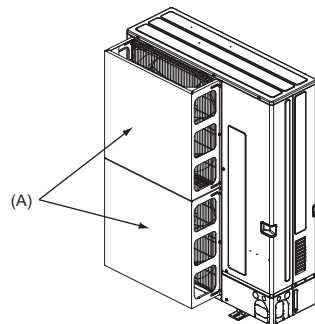
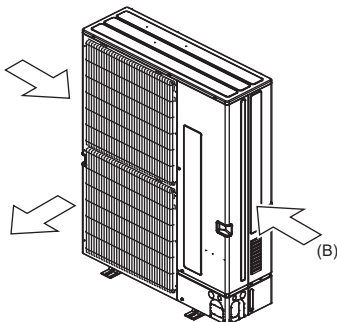

Fig. 2-4
Fig. 2-5
- (2) Install an optional air outlet guide and air guide if the unit is installed in a location where strong winds from a typhoon, etc. may directly enter the air outlet. (Fig. 2-4)
- (A) Air outlet guide
- (3) Position the unit so that the air outlet blows perpendicularly to the seasonal wind direction, if possible. (Fig. 2-5)
- (B) Wind direction